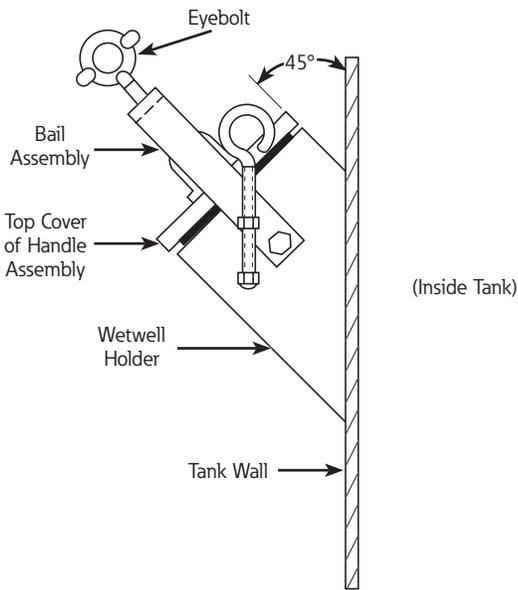
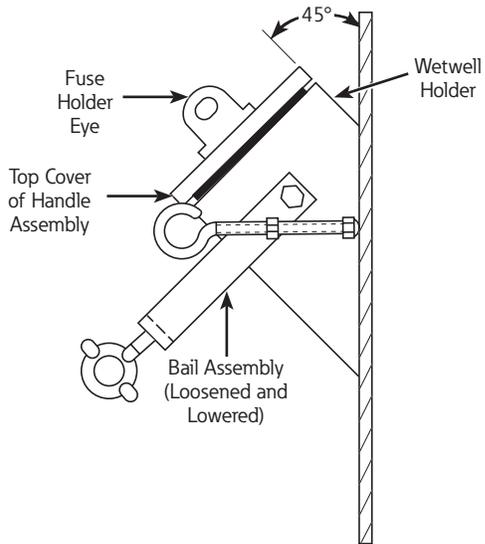

Figure 3. Side view of wetwell holder with bail assembly installed.
Figure 4. Lowered bail assembly.
- To remove the bail assembly as shown in Figure 3, attach shotgun stick to eyebolt, loosen eyebolt and lower bail. (Refer to Figure 4.)